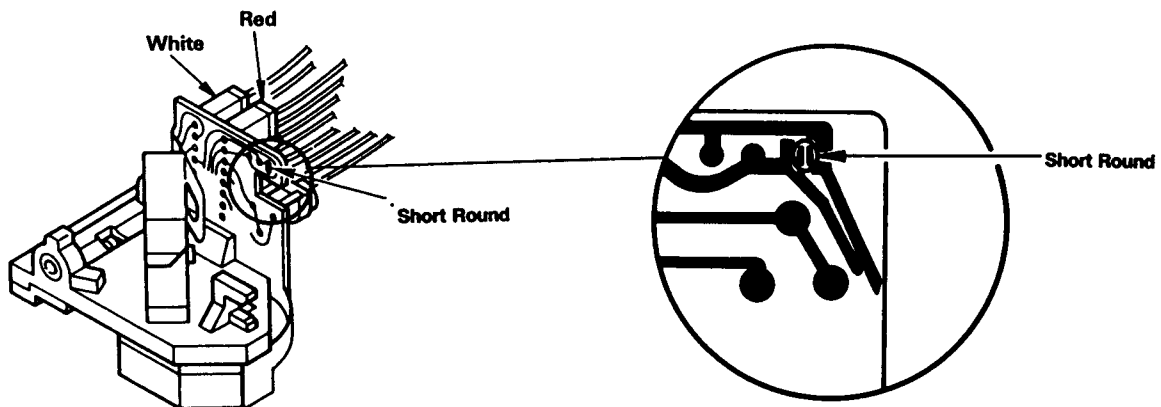

Fig. 11
6. After you connect the wire connector, desolder and remove the shorting tab (See Fig. 11).